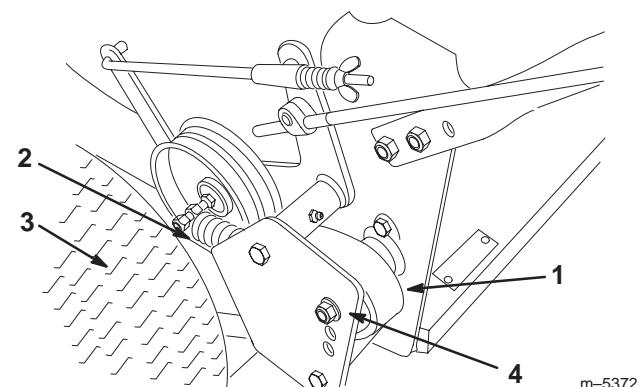

Figure 38
3. Remove the drive spring from the adjustment bolt (Fig. 38).